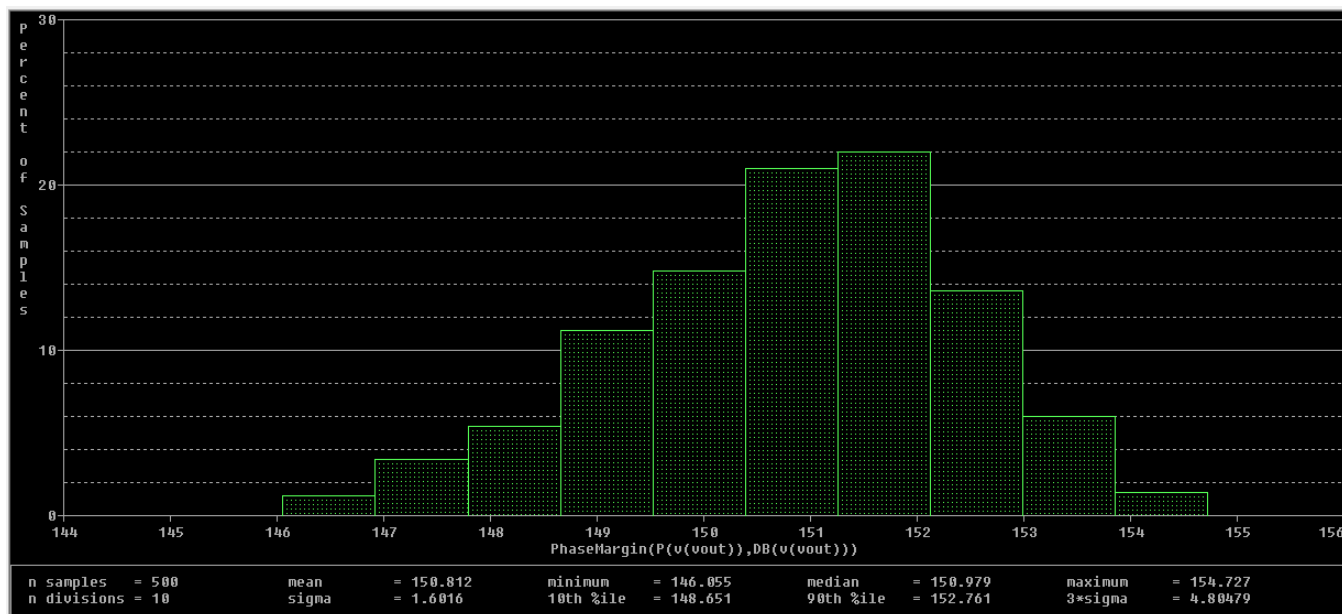

Figure 4. Frequency Response Histogram
- Copy the expression **PhaseMargin(DB(v(vout)),P(v(vout)))** into the *Trace Expression* field and click "OK". This will generate the histogram for the frequency response as shown in Figure 4.